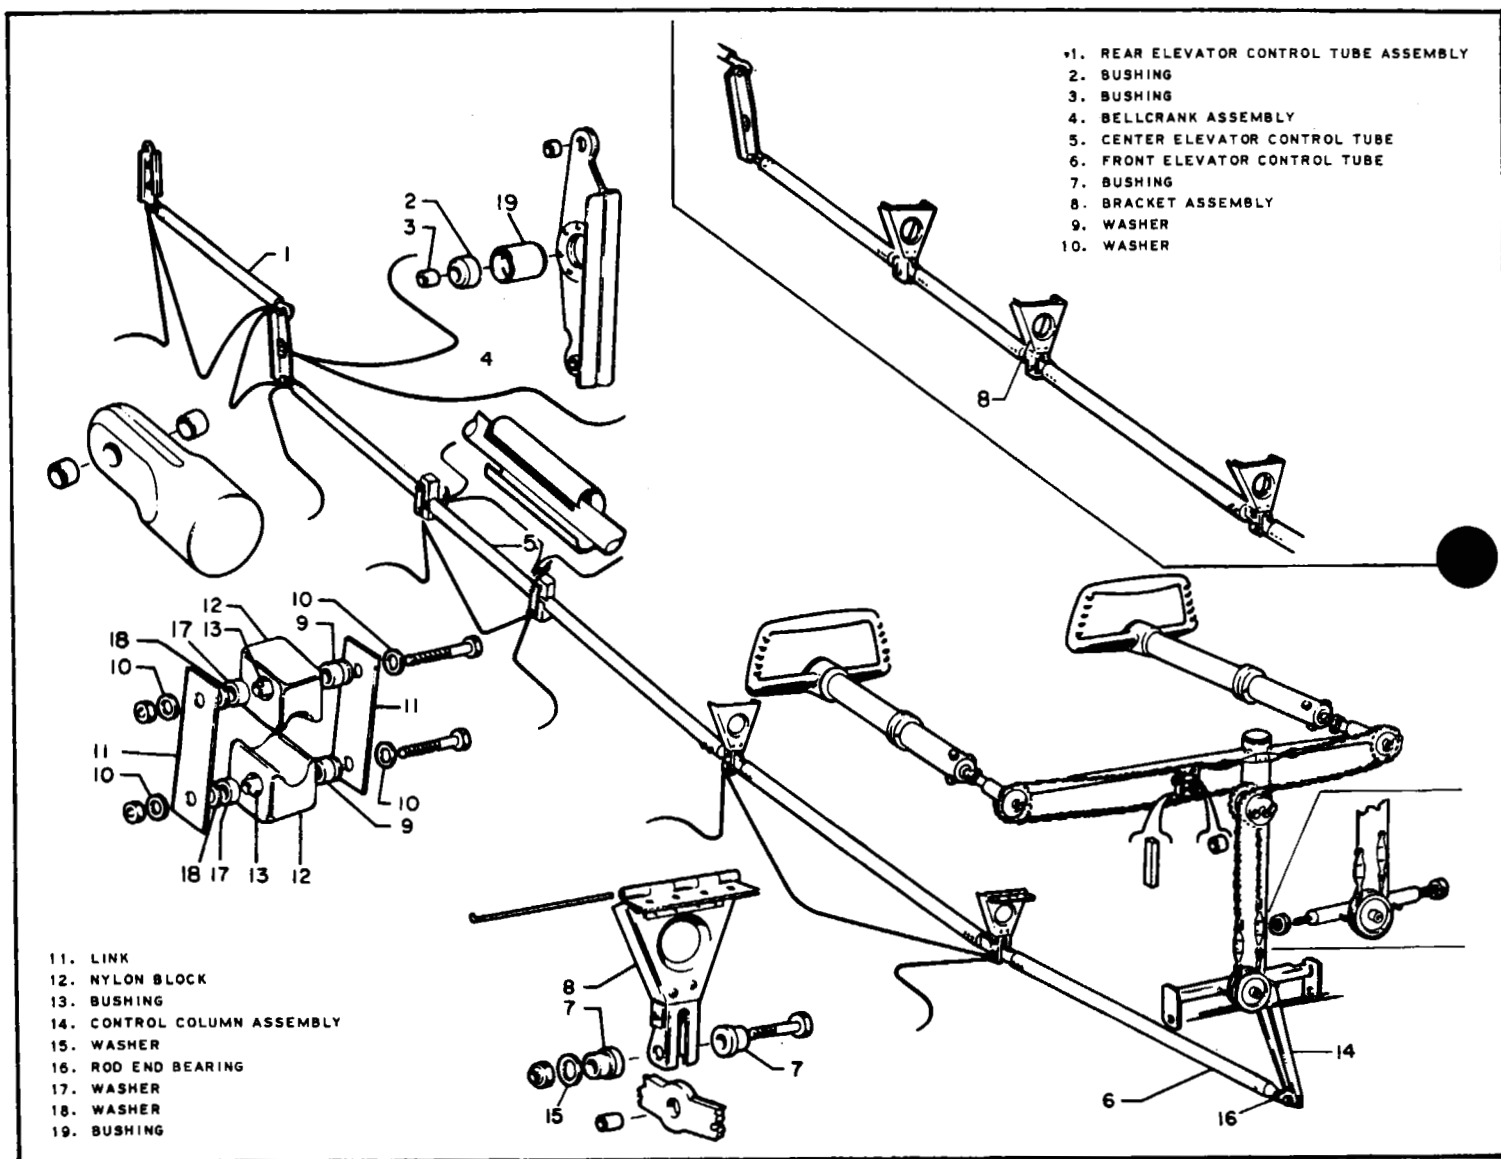

Figure 5-2. Elevator Control Installation
- b. Disconnect the elevator control front tube assembly (6, Figure 5-2) from control column assembly (14, Figure 5-2) by removing the cotter pin, nut, washer and bolt.
- c. Disconnect elevator control tube brackets (8, Figure 5-2) by removing from each, the self-locking nut and washer from the bolt. Slide the bolt out of the bracket and catch both of the flanged elevator control tube connector spacer bushings (7). Swing bracket up and away.
- d. Separate the control front tube (6) and the elevator control center tube assembly (5) by removing the self-locking nut and washer from both bolts. Remove the bolts.
- e. Aircraft bearing Serial numbers 23-1 to 23-1870, remove both elevator control tube nylon block assemblies. From each, remove the self-locking nut and the right washer (10) from the upper bolt. Slide out the bolt, freeing right inboard washer, bushings and the elevator control tube nylon block assembly (12). Remove the lower bolt to disassemble the lower nylon block assembly and to free the elevator control tube support links (11). Aircraft bearing serial numbers 23-1871 and up, remove the self-locking nut, washer (15), bushing (7), bolt and bushing (7) to disconnect elevator control center tube assembly.
- f. Disconnect the control center tube (5) and the elevator control rear tube assembly (1) from the end of the elevator bellcrank assembly (4) by removing the cotter pin, nut, washer and clevis bolt at each end.
- g. Remove the self-locking nut, bolt, bushing (3), bearing (2) and bushing (19) from the bellcrank.
- i. Reassemble and install the elevator control push-pull tubes in reverse order of the removal instructions above. (Refer to Figure 5-2.)
- j. On aircraft Bearing Serial No. 23-1 to 23-1870, do not install washer (18) inboard of the elevator control tube nylon block support right link (11) on either